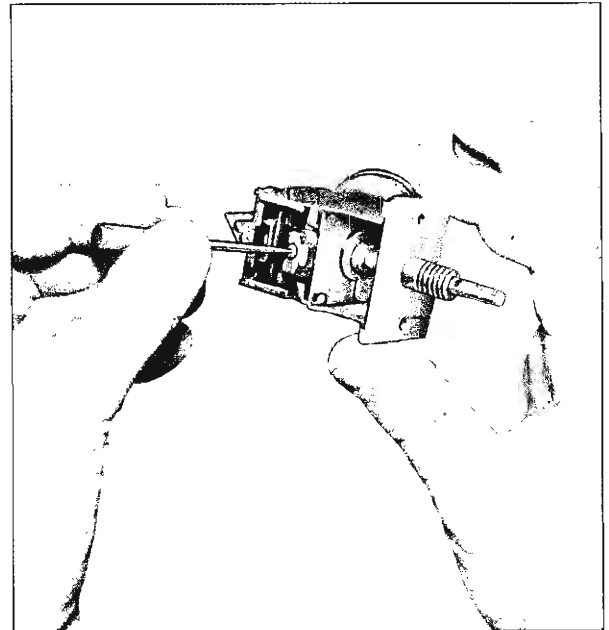

Fig. 36—Thermostatic Switch Adjustment
4. If the low side pulls down lower than the prescribed pressure at the end of each cooling cycle, turn the adjusting screw (See Figure 36) clockwise in single turn increments until the suction pressure rises to the correct pressure.